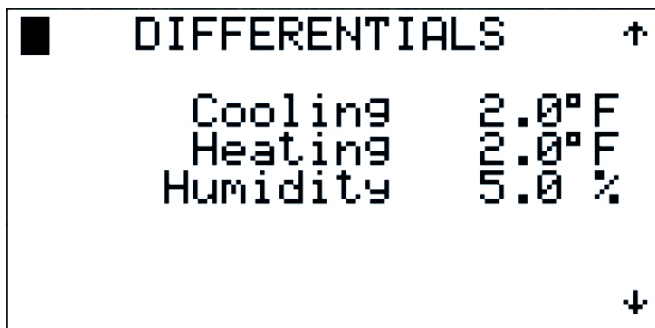

Figure 64
2.3.3.2.1 Tuning - Differentials (Figure 64)
Pressing the **DOWN** key will now display the DIFFERENTIALS screen, shown in Figure 64. This screen shows the Cooling, Heating and Humidity Switch Differentials. This differential is the range between the making and breaking of the switch. The range of the Cooling and Heating Differential is 0.0° F to 9.9° F. The range of the Humidity Differential is 0.0% to 9.9%.